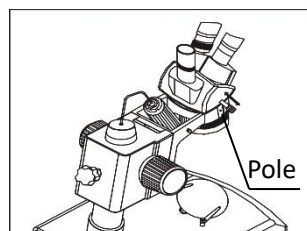

Fig. 7
- 1) You can alternate the binocular and video capture by pushing or pulling "the pole". You can attain binocular observation by pushing "the pole" inside, or attain video capture by pulling it outside. (Fig. 7)